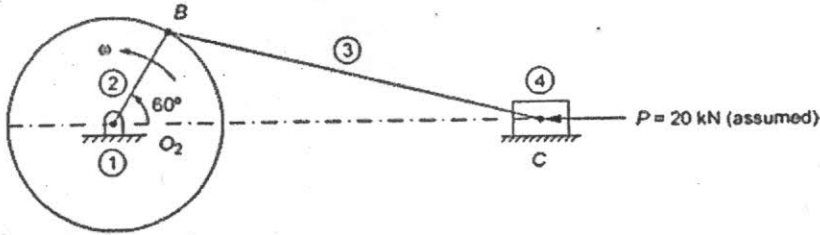

Fig.Q8(a)
8. The following list of data corresponds to the reciprocating engine mechanism shown in Figure Q8(a):